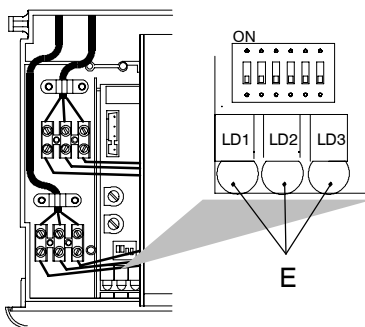
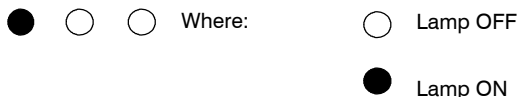

Fig. 11
Fig. 12
- 6 The lamps E should give the indication as in Fig. 11 – Fig. 12. If not, press the reset button repeatedly to obtain it.